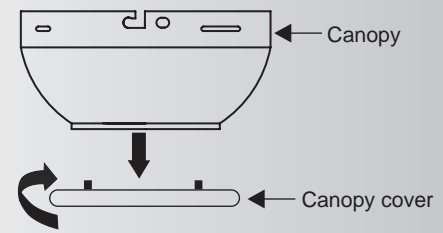

Fig. 11
1. Remove the decorative canopy cover from the canopy. (Fig. 11)